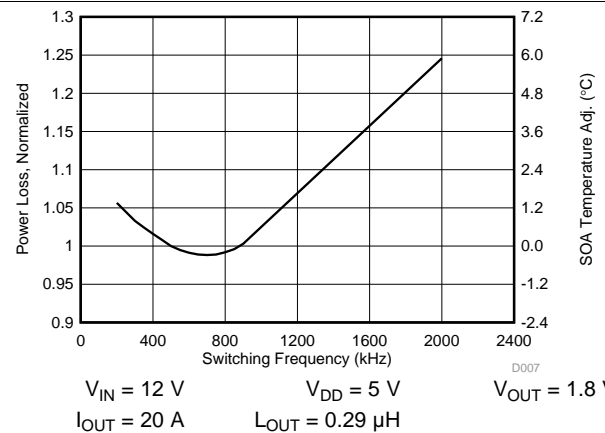

Figure 9. Normalized Power Loss vs Frequency
- Normalized Power Loss for switching frequency \approx 0.99 (Figure 9)
- SOA adjustment for switching frequency \approx -0.2°C (Figure 9)